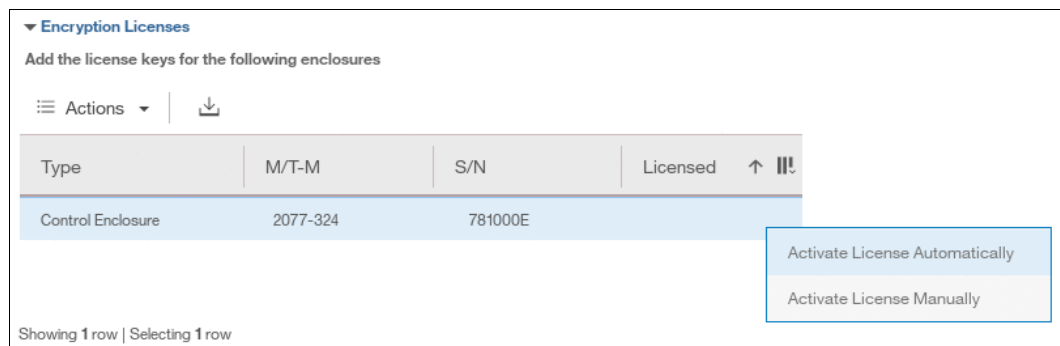

Figure 13-7 Selecting license activation method
3. Right clicking on the node opens a context menu with two license activation options (**Activate License Automatically** and **Activate License Manually**), as shown in Figure 13-7. Use either option to activate encryption. See 13.3.4, “Activate the license automatically” on page 715 for instructions about how to complete an automatic activation process. See “Activate the license manually” on page 717 for instructions on how to complete a manual activation process.